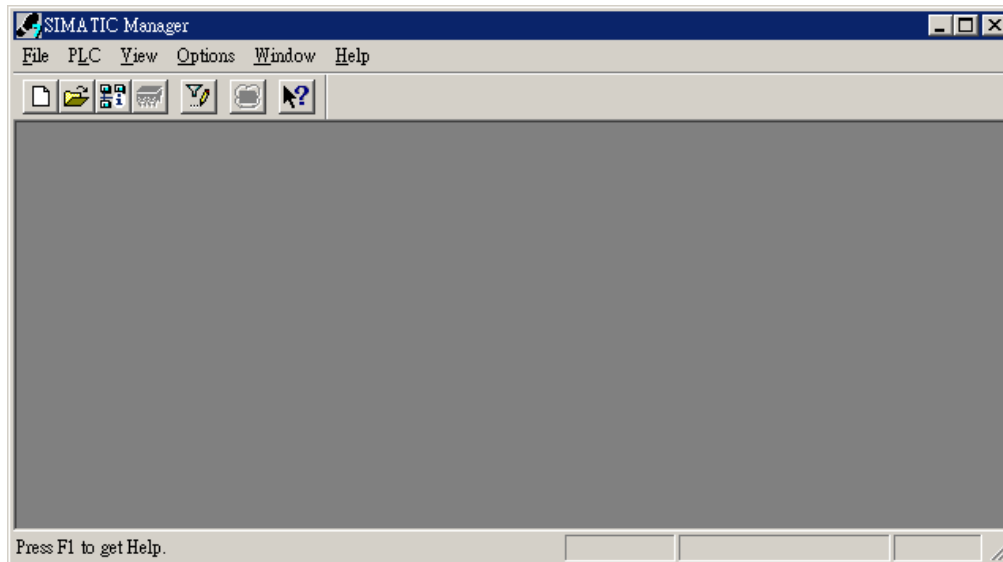

Figure 7-2
1. Open SIMATIC Manager. See Figure 7-2.